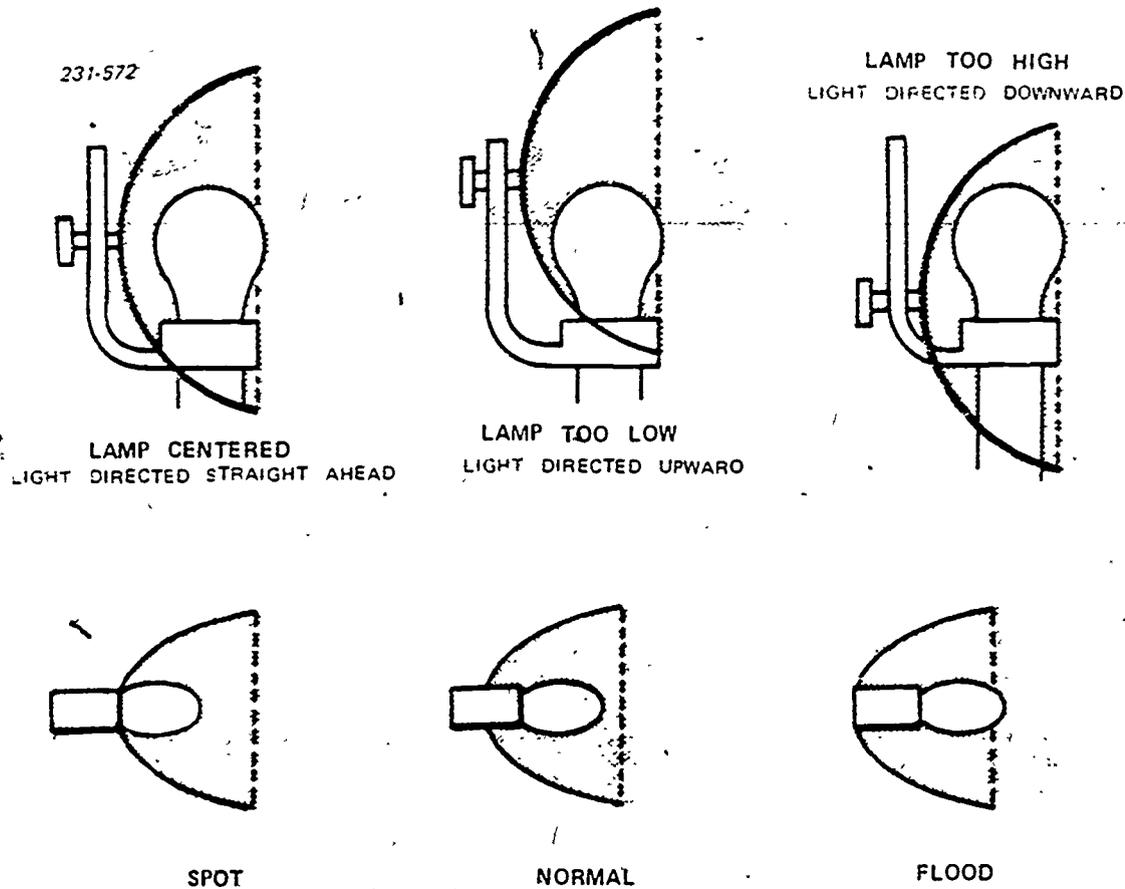

Figure 5-14. Reflector positioning.
b. When using flashbulbs, the type of reflector that you use and the position of the bulb within the reflector will affect the direction of the light and its intensity on the subject. These two factors will of course affect your exposure, (see fig. 5-14). In fact for a very weak fill light some photographers don't use a reflector at all.